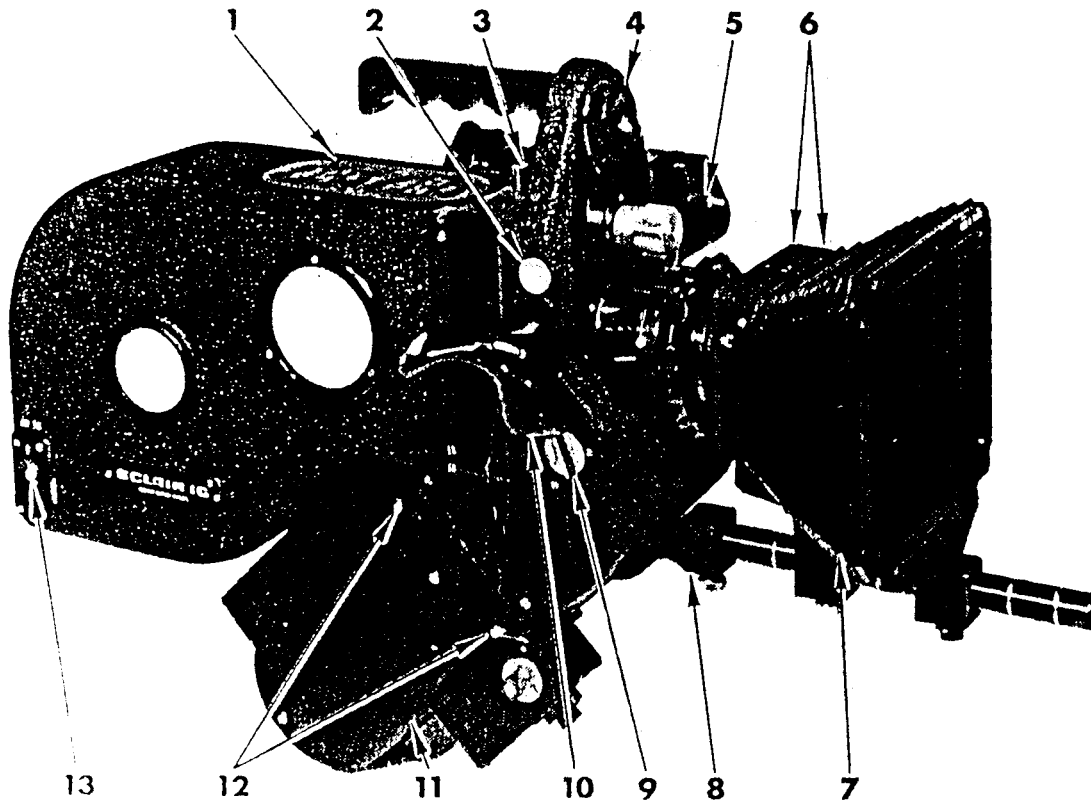

Fig. 13-10. Eclair NPR with standard lens and matte box (right side).
13.7 ECLAIR NPR 16 CAMERA* (Figs. 13-10, 13-11)